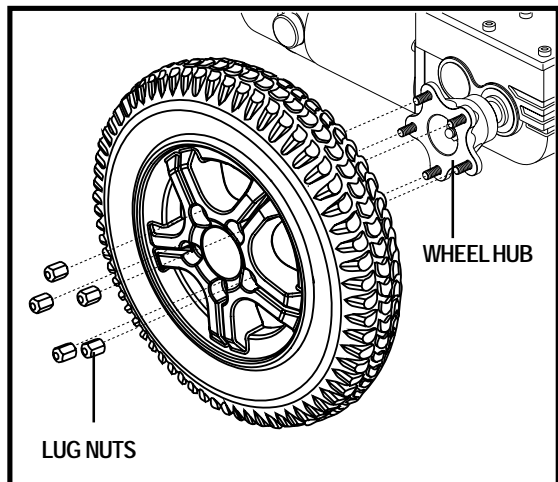

Figure 22. Quantum 600 Series Drive Wheel
4. Remove the five (5) lug nuts from the wheel hub. See figure 22.